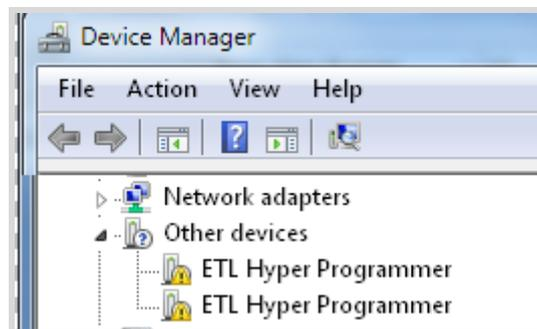

Figure 3. The "ETL Hyper Programmer" devices in the "Device Manager."
- Open the "Device Manager" and locate "ETL Hyper Programmer" devices (Figure 3).